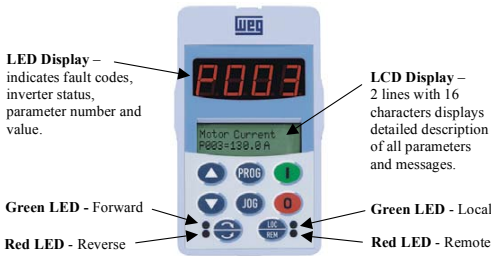

Figure 2 - Keypad Operation
- Press the **FWD / REV** key to change directions. The green and red LEDs on the left side of the keypad indicate rotation direction (Fig. 2)
**Notes:** (1) The "Acceleration Time" and "Deceleration Time" is set at P100 and P101 respectively (Default value is 20sec). If the acceleration current becomes too high, especially at low frequencies (<15Hz), an inverter over-current (E00 or E05) may occur requiring the Torque Boost at P136 to be decreased. Increase/decrease the content of P136 gradually until an operation with constant current over the entire frequency range is obtained. Refer to P136 in Chapter 6 of the CFW09 User's Guide for a full explanation.
(2) If E01 fault occurs during deceleration, increase the deceleration time at P101.
(3) Minimum and Maximum speeds are set at P133 and P134 respectively.
(4) For a complete description of Parameters and Error codes refer to Chapters 6 and 7 in the CFW09 User's Guide.
In the previous section the inverter was operated from the keypad (Local Mode). Note the green local indicator LED on the bottom right of the keypad (Fig.2). For the factory default programming, the selection of the operation mode (Local/Remote) is made via the "Local/Remote" key (default is Local). To pass default of the key to remote, set P220=3. With this setting the inverter will power up in remote mode. Note the red remote indicator LED on the bottom right of keypad (Fig. 2). If you wish to use an external Local/Remote switch (Hand-Off-Auto) set P220=4, connect the switch to one of the Digital Inputs (DI2-DI6), and set the corresponding parameter (P264 to 268=1). To always run in Local mode set P220=0. To always run in Remote mode set P220=1.